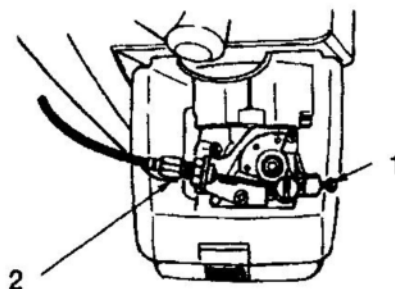

FIG 33B
1. The idling screw adjustment is accessible without removing the air filter cover. See Fig. 33B. To increase engine idle speed, turn IDLE SCREW (#1) clockwise (Refer Fig.33B). To decrease engine speed, turn IDLE SCREW counter (anti) clockwise. Throttle trigger to be in idle position.